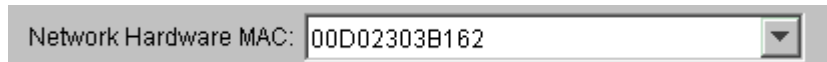

Figure 6-21: Setting the Network Hardware MAC
- **Network Hardware MAC** - A DHCP client identifies itself to the server using its network hardware (MAC) address. See **Figure 6-21**.